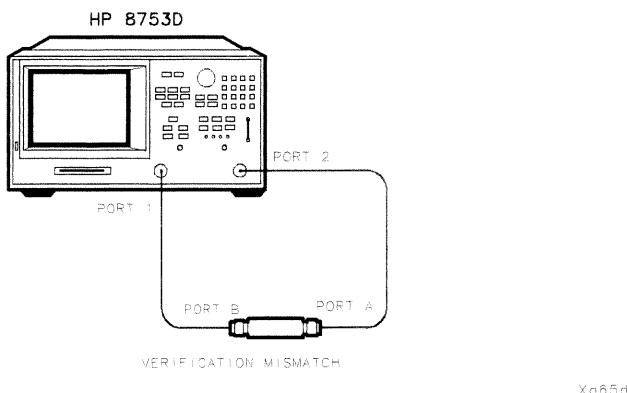

Figure 2-13. Mismatch Device Verification Setup
50. Connect the verification mismatch as shown in Figure 2-13. Notice that port B of the verification mismatch is now connected to the reference test port 1.